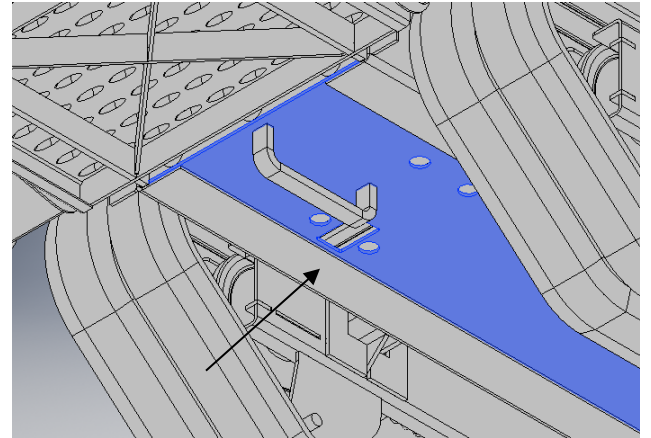

Fig 20
4. Replace the bung and push the oil drain hose back up through the hole in the frame. **(Fig 20)**